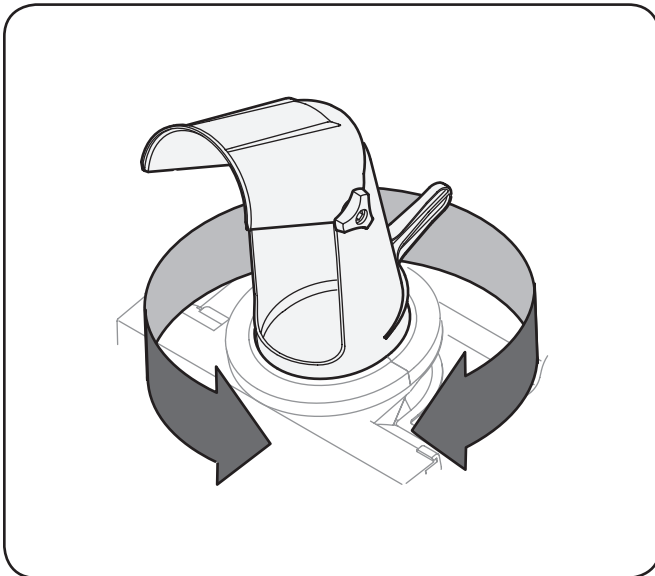

Figure 5-4
2. Position the chute assembly opening by using the chute handle to throw the snow in the desired direction. See Fig. 5-4.